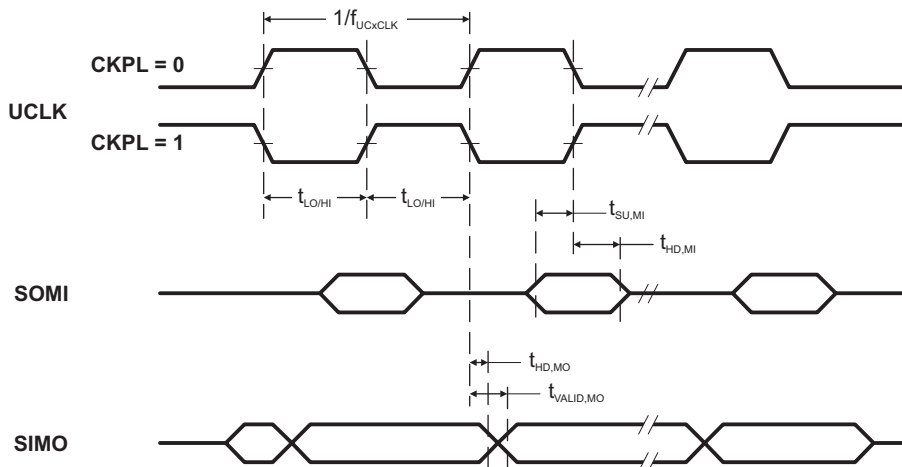
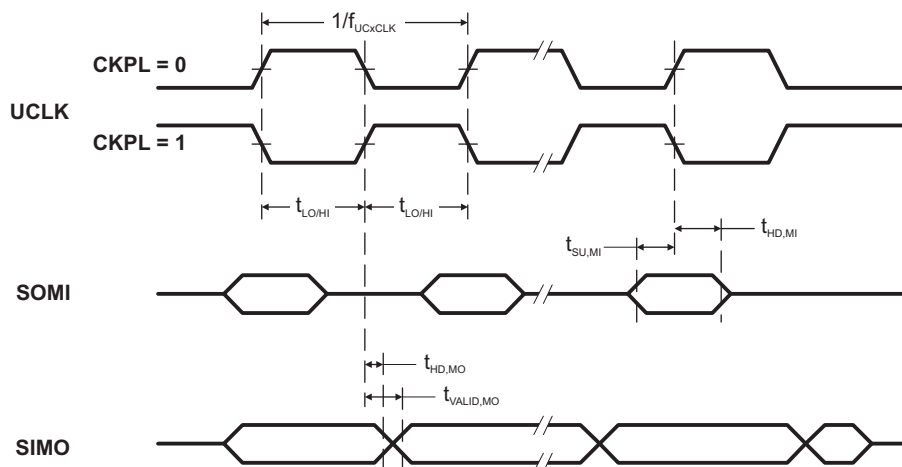

Figure 5-13. SPI Master Mode, CKPH = 0
Figure 5-14. SPI Master Mode, CKPH = 1
(see Note ⁽¹⁾, Figure 5-13 and Figure 5-14)
- (1) f_{UCxCLK} = 1/2t_{LO/Hi} with t_{LO/Hi} ≥ max(t_{VALID,MO}(USCI) + t_{SU,SI}(Slave), t_{SU,MI}(USCI) + t_{VALID,SO}(Slave)). For the slave's parameters t_{SU,SI}(Slave) and t_{VALID,SO}(Slave) see the SPI parameters of the attached slave.
- (2) Specifies the time to drive the next valid data to the SIMO output after the output changing UCLK clock edge. See the timing diagrams in Figure 5-13 and Figure 5-14.
- (3) Specifies how long data on the SIMO output is valid after the output changing UCLK clock edge. Negative values indicate that the data on the SIMO output can become invalid before the output changing clock edge observed on UCLK. See the timing diagrams in Figure 5-13 and Figure 5-14.
(2) Specifies the time to drive the next valid data to the SOMI output after the output changing UCLK clock edge. See the timing diagrams in Figure 5-13 and Figure 5-14.
(3) Specifies how long data on the SOMI output is valid after the output changing UCLK clock edge. See the timing diagrams in Figure 5-13 and Figure 5-14.